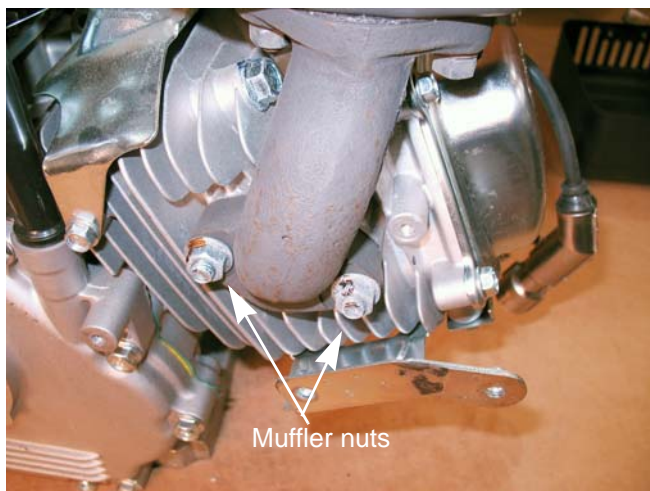

Figure 8.10
6. Remove the two muffer nuts using a 13mm wrench and lift the muffler off of the engine. See Figure 8.10.